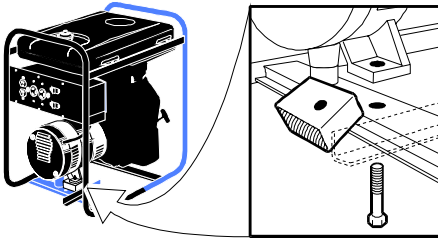

Figure 1
- Remove shipping block from under the generator head by unscrewing the bolt and remove the wood block. It is very important that this is removed before starting your generator. See Figure 1.